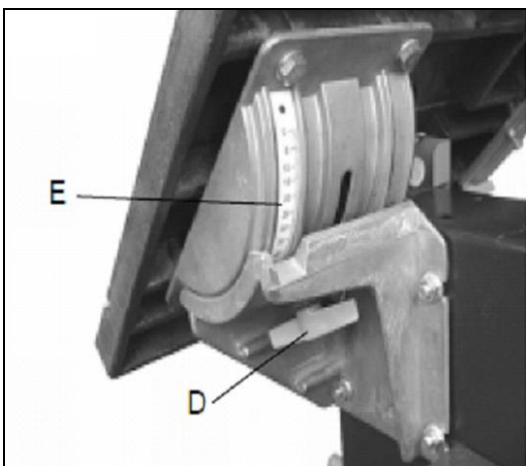

Fig 31
Loosen the winged nut (D, Fig 31) on the lower trunion, then tilt the table to the angle required using the scale (E).